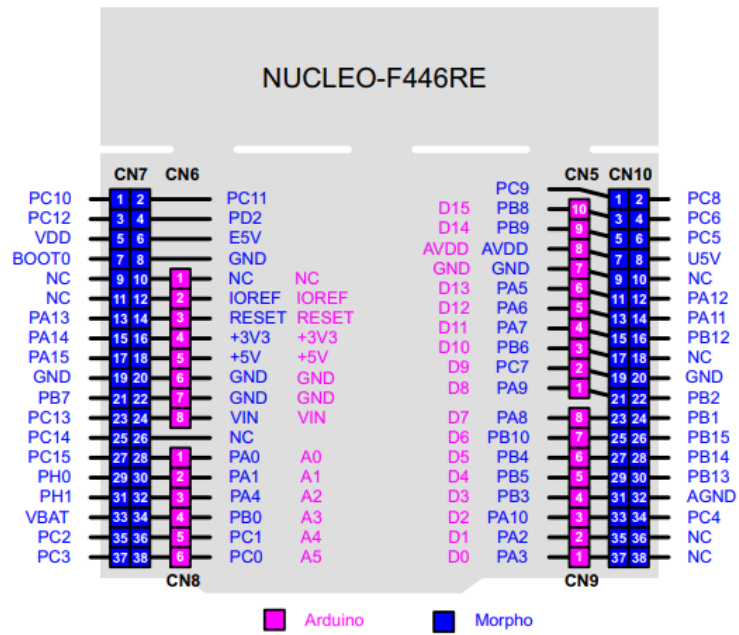

Figure 2: Nucleo 64 (F446RE) Board Pin Out
2. Connect the STM32 Nucleo-64 board with all components listed in Table 1, based on the circuit designed during the pre-lab session. Refer Figure 2 for the pins out connection. Present the completed circuit to the supervising lecturer for verification before uploading the program.